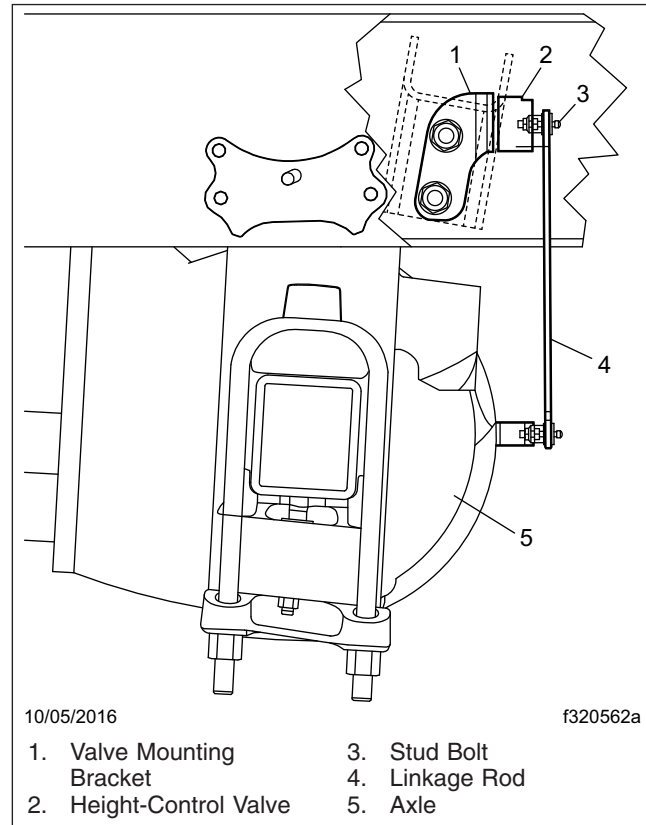

Fig. 4, Typical Barksdale Height-Control Valve Installation (side view)
- NOTE:** The stud bolt that fastens the height-control valve horizontal lever to the vertical linkage is oriented correctly when the linkage rod is vertical, as viewed from the side of the vehicle; see **Fig. 4**. The rod may be on the forward or aft side of the lever to get it to be vertical.